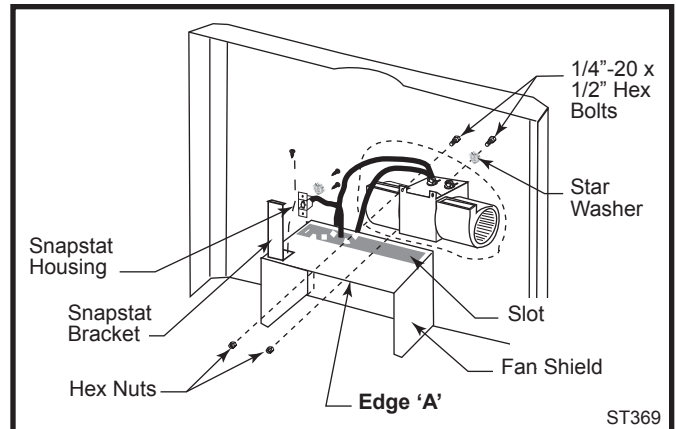

Fig. 12 Position fan behind rear shroud.
3. Position the fan behind the rear shroud. (Fig. 12) Pass the fan rheostat assembly and snapstat assembly beneath the stove toward the front.
5. Attach the snapstat housing to the snapstat bracket with two sheet metal screws and one #8 star washer. (Fig. 12)
6. Attach the snapstat bracket, with the snapstat assembly attached to it, to the horizontal surface on the inside of the rear shroud. Use a sheet metal screw. There are predrilled holes at each corner of the panel for this. The vertical part of the snapstat bracket should be 3/16\" back from Edge 'A'. (Fig. 12)
7. Attach the fan assembly to the rear shroud using two 1/4\"-20 x 1/2\" hex head bolts, two 1/4\" -20 nuts and one 1/4\" star washer. (Fig. 12)